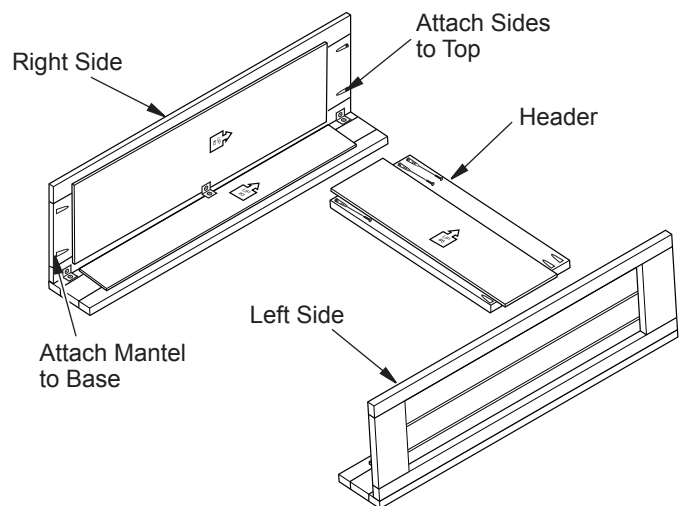
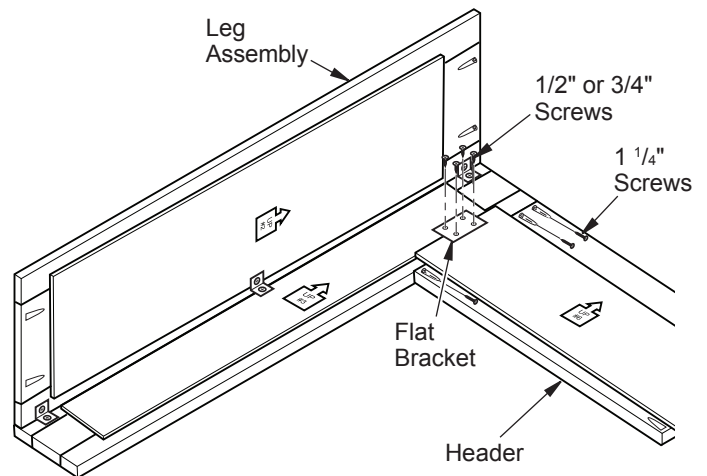

Figure 3 - Installing Header
Figure 4 - Installing Header Brackets
3. Place header (#6) between right and left leg assemblies (see Figure 3). The top of header must be flush with top of side leg assemblies. Attach header using 1 1/4" in pocket holes on each leg assembly as shown in Figure 3. Be sure you have proper alignment between the header and leg assemblies. Attach flat brackets with 1/2" or 3/4" screws using 1 flat bracket and 4 screws per side (see Figure 4).